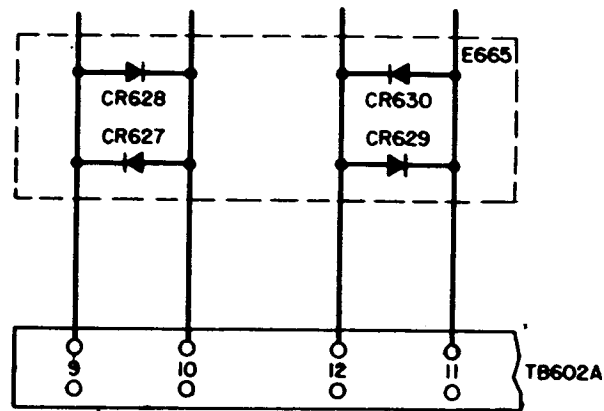

Figure 1. Correction to Figure 6-28A
1. On figure 6-28A, Electrical Frequency Control C-2861/WRT-1, Schematic Diagram, Sets serials 142 and up, change the value of R720 and R721 from 220 ohms to 2.2K. Change the value of R605 and R606 from 200 ohms to 820 ohms. In the area 2C just above terminals 9, 10, 11, and 12 of TB602A draw in two reverse polarized diodes between term 9 and 10 and two reverse polarized diodes between terminals 11 and 12 as shown in figure 1 of this temporary correction. These four diodes should be enclosed in a dashed rectangle labeled E665 to denote the diode mounting boards. The diodes should be labeled type IN457 and assigned symbols CR627, CR628, CR629, and CR630 as shown in figure 1 of this temporary correction.